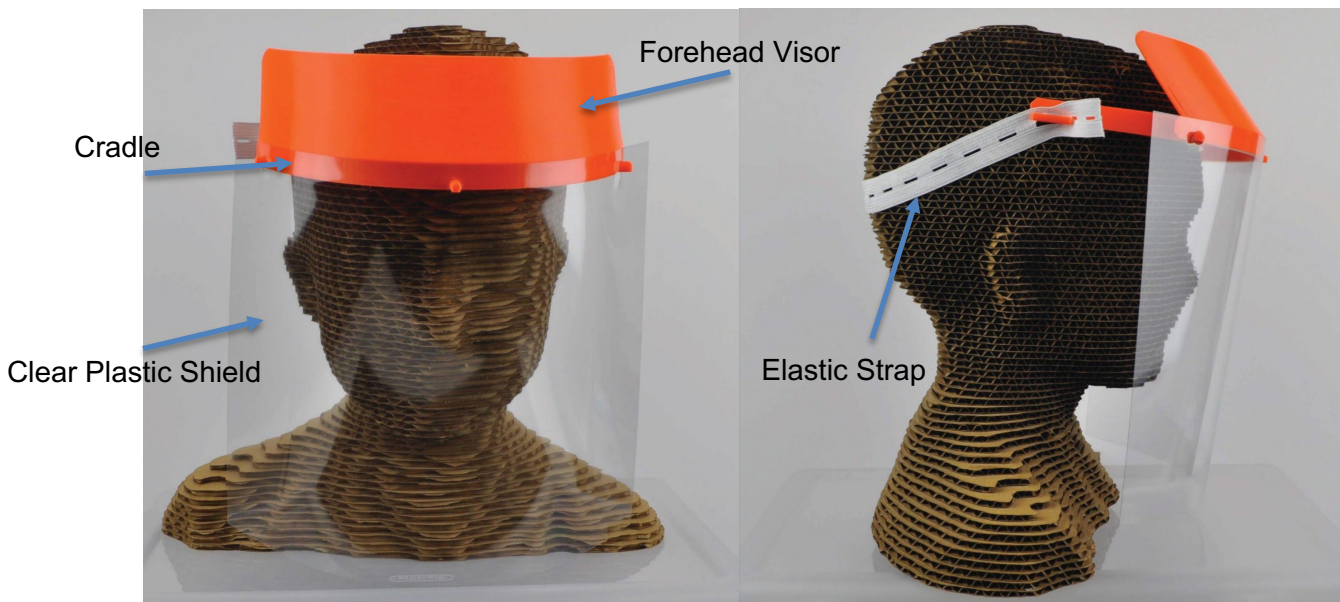

Fig. 1
This supplementary face shield consists of three (3) components: the shield, the cradle, and an adjustable elastic strap. A diagram of the components is shown below in **Fig. 1**.
10. Do a final inspection of the mask with all components assembled to ensure nothing is damaged and everything has been assembled properly as shown in **Fig. 1** above.